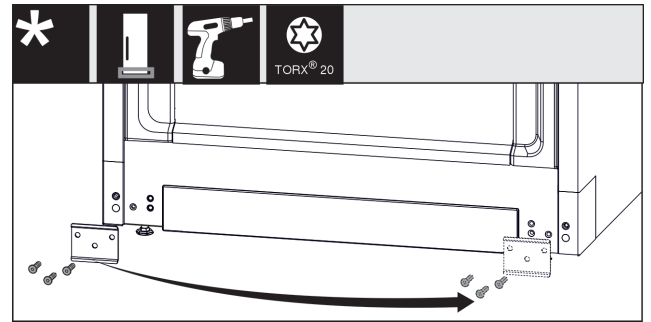

Fig. 13
- ▶ Unscrew the metal plate, move it to the other side and screw it on again. Fig. 13 (1)